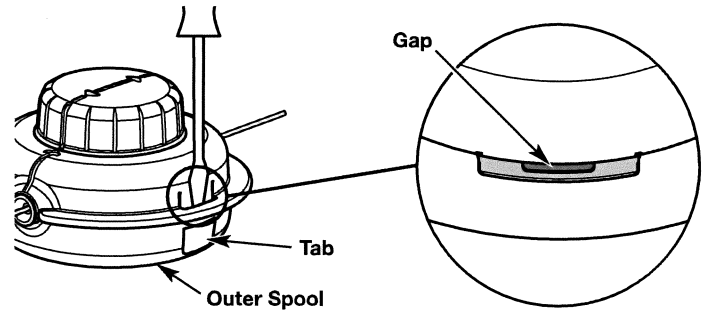

Fig. 22
- a. Firmly press a tab on the cutting head with your thumb (Fig. 22). **DO NOT** press the tab with a screwdriver or other object.
- b. Continue pressing the tab. Insert a flat-head screwdriver into the gap between the outer spool and tab (Fig. 22).